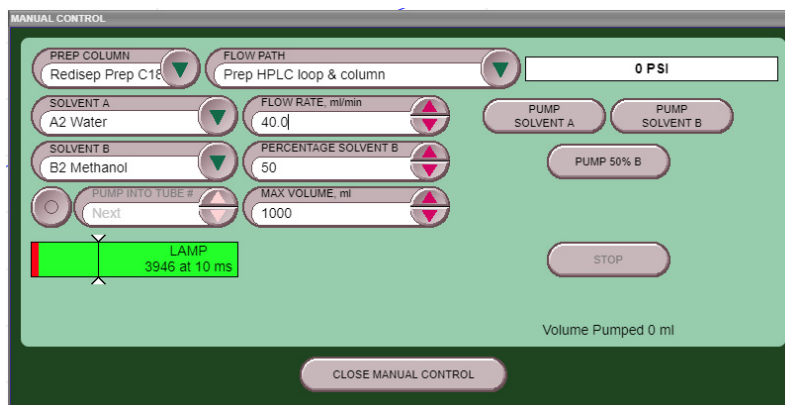

Figure 5-4 Manual Control Settings - Quick Cleaning-
4. Set the Flow Rate to 40 mL/min (Figure 5-4).